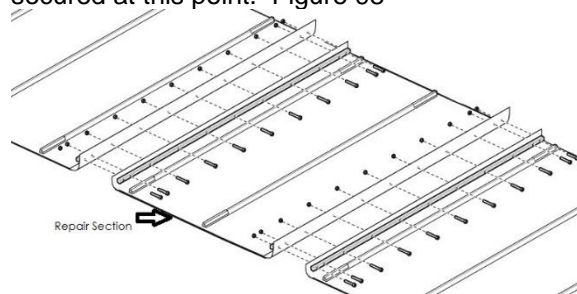

Figure 98
12. Repeat steps 10 through 13 for the other cut. The splice section should be fully secured at this point. Figure 98